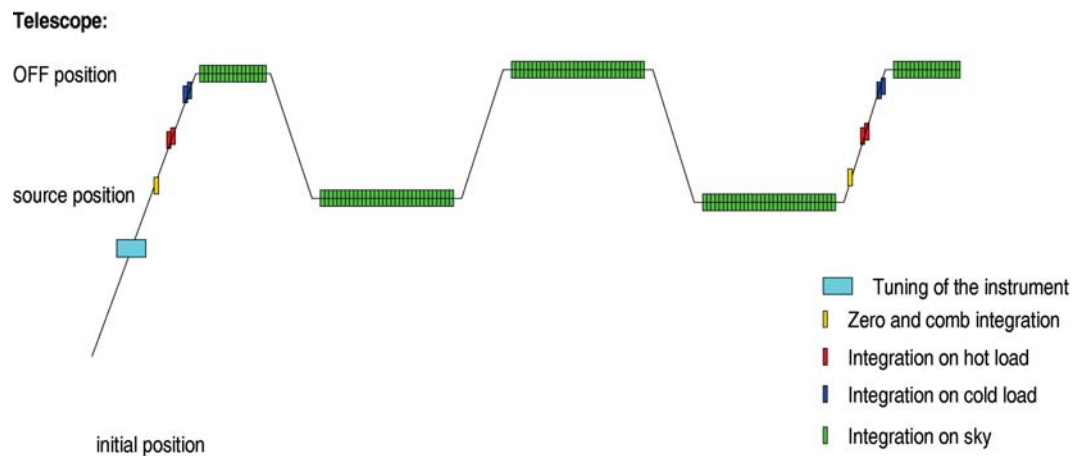

Figure 2.8. Position Switch observation timeline
Figure 2.8 illustrates the different observing blocks involved in a Position Switch observation. Before the first OFF position integrations, the LO is tuned to the desired frequency (cyan box), a comb and dark are taken for frequency calibration of WBS (yellow box), and cold and hot load sequences are taken (red and blue boxes). These internal calibrations may be repeated during the slews at later times during the observation. The green boxes indicate integrations on the sky either at the source position (ON), or on the reference position (OFF).
The LO tuning (*tune*) takes place right before the calibration block, and has a fixed duration that depends on the frequency. Tuning indeed implies some thermal stabilisation of the LO chain so that a dead time, allowing for this, is allocated into the tuning block. Right after in this summary table, one can recognise the sequence illustrated in Figure 2.8: the calibration block, composed of a *comb* (WBS frequency calibration) and a *hc* (code for “Hot-Cold”, for the bandpass and flux calibration), is followed by the OFF- and ON-target blocks in the order given in Section 2.3.2.2. Note that Level 1 data for ON-target Bbid already have the OFF position integrations subtracted.